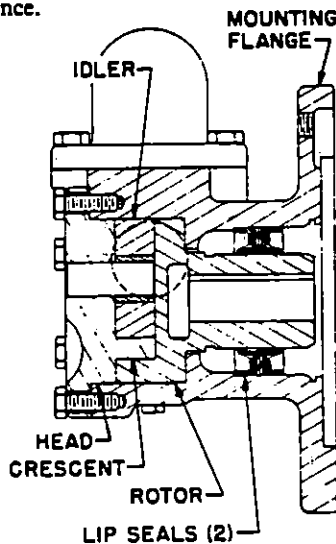

FIGURE 7
To Reassemble Model G75 or GG75 Lip Seal Pumps: (see Figure 7)
NOTE: Use an arbor press with an arbor of 2-3/16" diameter and press the lip seals in the casing as far as they will go. See Figures 7, 8, 9 and 10 for a cross section of your pump models.
6. **THE HEAD CAN NOW BE ASSEMBLED ON THE PUMP.** Tilt the top of the head away from the pump slightly until the crescent enters the inside diameter of the rotor and rotate the idler until its teeth mesh with the rotor teeth. Do not damage the head gaskets. Note correct position of idler and crescent (See Figure 7 and Disassembly Step 2). Tighten the head capscrews and then check the end clearance.